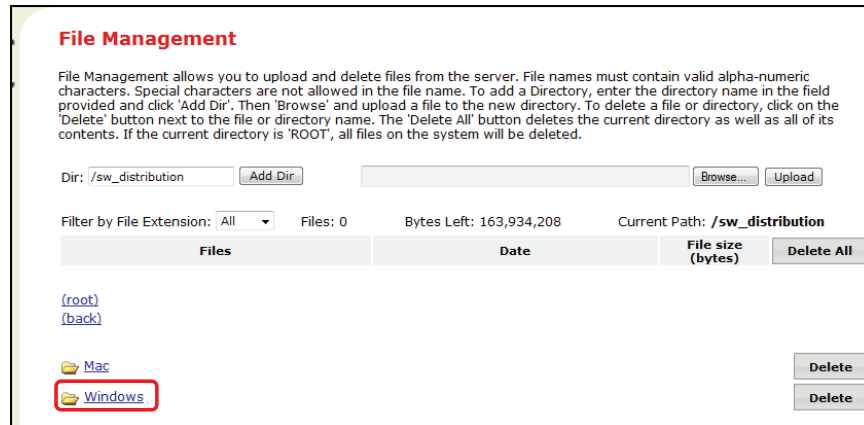

Figure 32. Select Windows
3. On the next page select **Windows** (see figure 32).